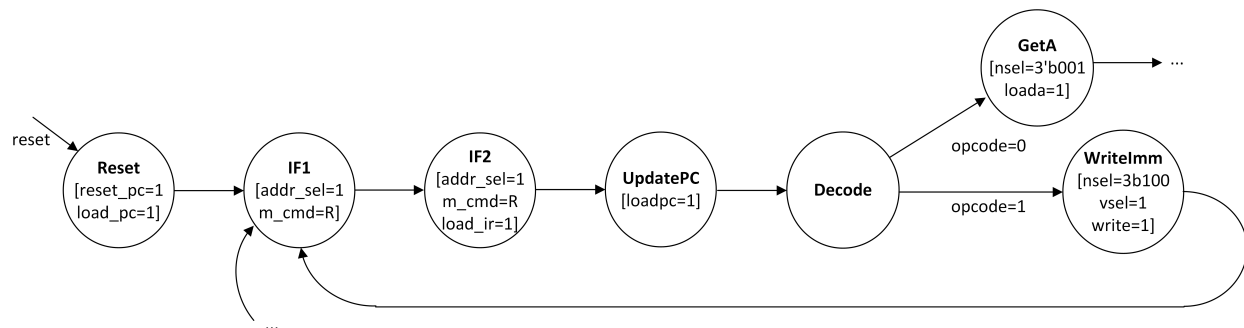
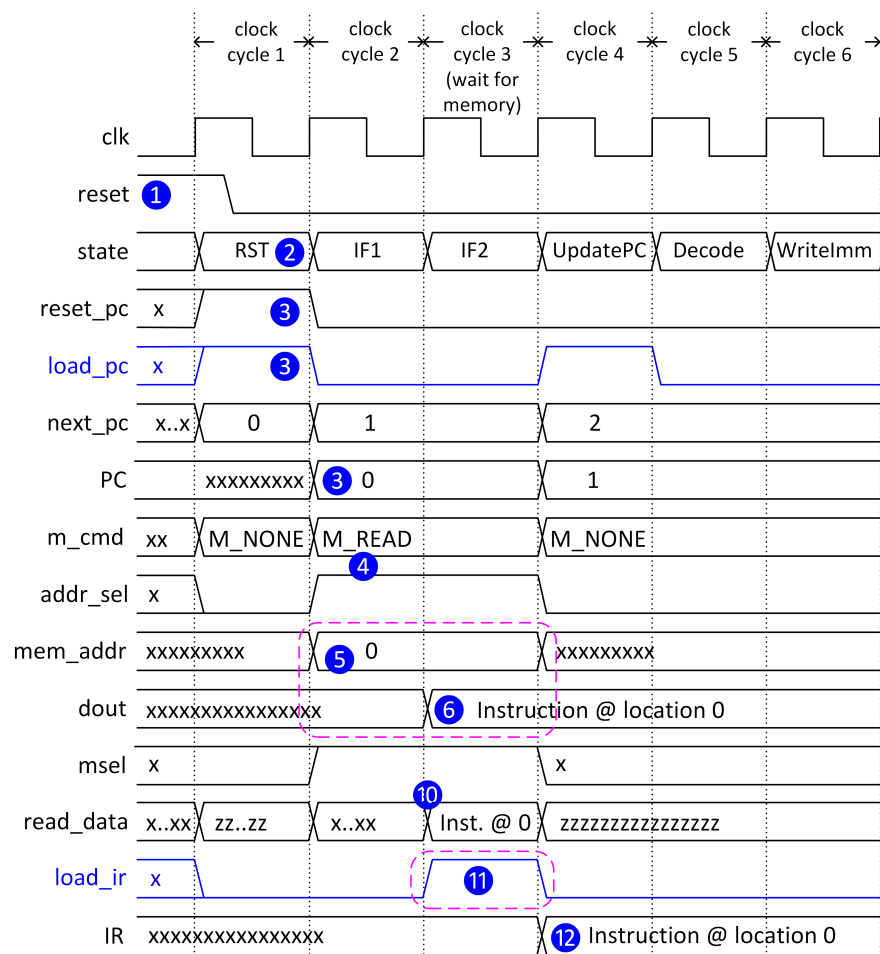
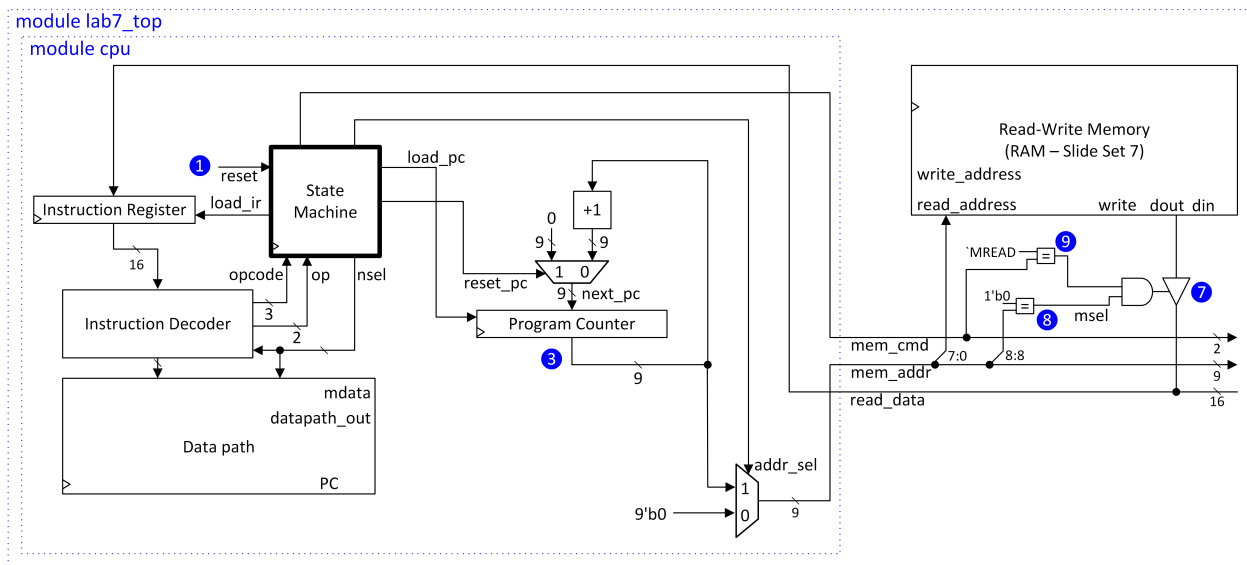

Figure 3: Modified State Machine to Interface with Instruction Memory
Figure 4: Timing of Instruction Read and PC Update (note one cycle delay on *dout*).
Figure 5: Changes for executing instructions from memory
instruction for the instruction at the address specified by the contents of the PC register should be available at the data output of the memory (*dout*). Thus, in *IF2* we set *load_ir* to 1. On the next rising edge of the clock the 16-bits encoding the instruction at address 0 is finally loaded into the instruction register. Then, in state *LoadPC* we set *load_pc* to update the program counter to the address of the next instruction to execute. The timing of *load_pc* and *load_ir* can be seen in Figure 4 which also includes several other important signals from Figure 2.
Implement the hardware shown in Figure 5. As indicated in the figure, some additions should go into your cpu module from Lab 6 and others in a new lab7_top module for Lab 7 that should follow the declaration below as it will be auto-graded:
You will need to modify your state machine to include the four new states that replace the wait state as described in the prior section. The description further below of Figure 4 is intended to help you make these changes. After you make the changes for Stage 1 be sure you can get every instruction introduced in Lab 6 to work. To help you quickly generate data.txt files for initializing your memory with your program you can use the Simple RISC Machine assembler that is available at ~cpen211/bin/sas on ssh.ece.ubc.ca. To use this program, you write a text file containing human readable assembly such as the following:
The operation of Figure 5 can best be understood with the timing diagram in Figure 4 which illustrates the detailed timing of reading an instruction from memory using the state machine in Figure 3. In cycle 0 the reset input (1 in Figure 5 and Figure 4) is asserted causing the state machine to enter the *RST* state (2 in cycle 1. In Cycle 1, the state machine asserts *reset_pc* which causes zero to be input the program counter register and at the same time asserts *load_pc* which causes this zero value to be loaded by the program counter register (3). In Cycle 2, the state machine sets *addr_sel* to select the output of the program counter (the other input to this multiplexer will be used for supporting load and store instructions in Stage 2) and at the same time, the state machine sets *m_cmd* to indicate a memory read operation is desired (4). This causes the program counter to be driven to the *mem_addr* bus (5). One cycle later (Cycle 3), the synchronous read operation completes and the 16-bit value of the instruction at address 0 is available on bus *dout* (6).
Next, we examine how values are returned from the memory back to the CPU. To enable input/output devices to share the same address space as memory, we use a tri-state driver (7 in Figure 5). If a memory
A first equality comparator (8) determines whether the high-order bits correspond to the address range the memory contains. Specifically, the address corresponds to the memory if bit-8 is 0. The second equality comparator (9) determines whether the operation is a read command. The outputs of the comparators are AND-ed together to determine whether the data read from memory should be driven to the data bus via a tri-state driver (7). The enable input to the tri-state drive is true during Cycle 2 and 3 in Figure 4, thus causing whatever value is on *dout* to be driven to *read_data* (10).